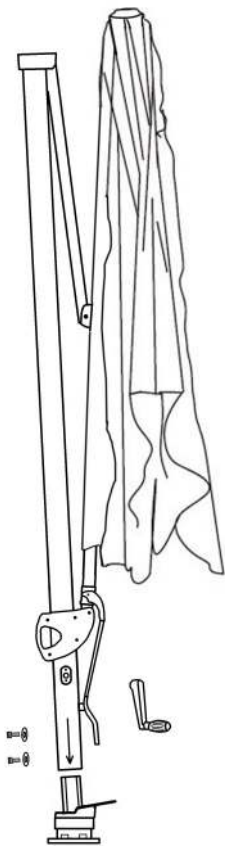

Fig 1
1. Carefully lift the umbrella and side-post to the vertical position. Hold the umbrella so that the bottom of the side-post is above the rotate bearing and carefully lower onto the rotate stem. See Figure 1 on opposite page.